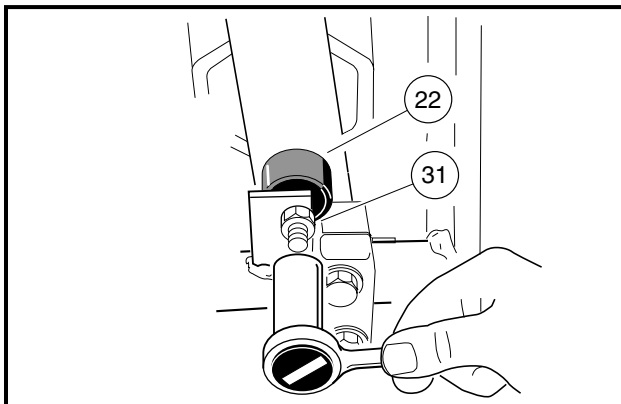

Figure 5-12 Brake Pedal Height Adjustment
- 2.4. Loosen the brake stop jam nut (31), then relieve pedal pressure on the stop by pushing down slightly on the pedal. Next, adjust the brake stop bumper (22) up or down (**Figure 5-12, Page 5-17**). Adjusting the bumper upward decreases distance between pedal and floorboard. Adjusting the bumper downward increases distance between pedal and floorboard. Proper brake pedal height is 6 inches (15.2 cm) (**Figure 5-13, Page 5-17**).
- 2.5. Tighten the jam nut (31) to 8 ft-lb (9.5 N·m) (**Figure 5-12, Page 5-17**).
- 2.5. Tighten the jam nut (31) to 8 ft-lb (9.5 N-m) (**Figure 5-12, Page 5-17**).